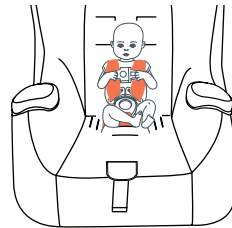

Fig. 45b
32. Child in car seat **without** insert, pillow and harness covers. **NEVER** use pillow or harness covers in the Low Birth Weight Harness Routing (Fig. 45b).